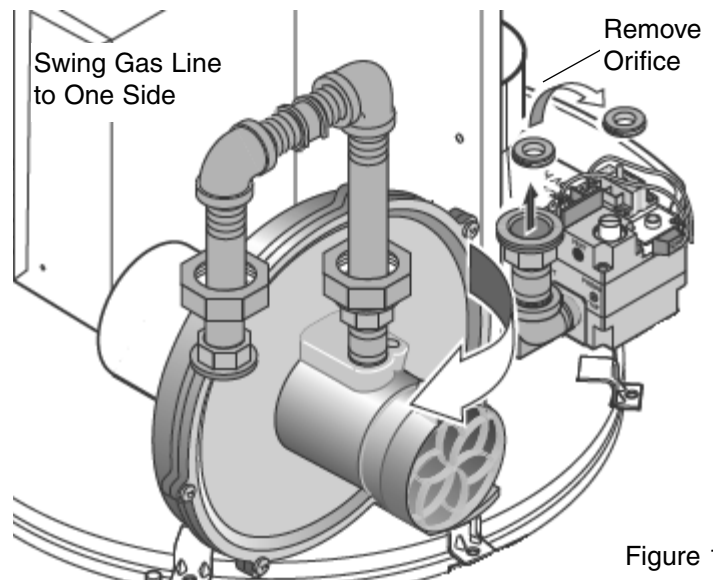

Figure 1
4. Loosen the 3/4" gas line union directly above the air inlet tube (see Figure 1). Swing the gas line loop out of the way.